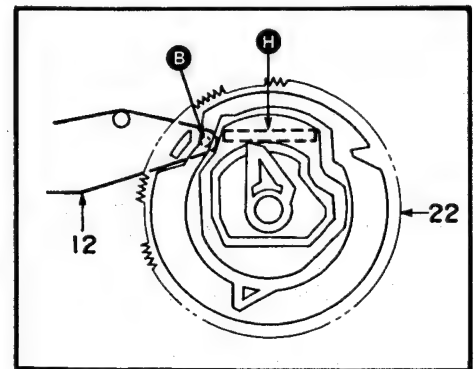

Fig. 6
- 1-12) The FD GEAR is locked in position of Fig. 6 by the pin ⑥ of the FD ARM, and the P/R and E heads fixed on the SUB-CHASSIS are held in the PLAY/REC position.